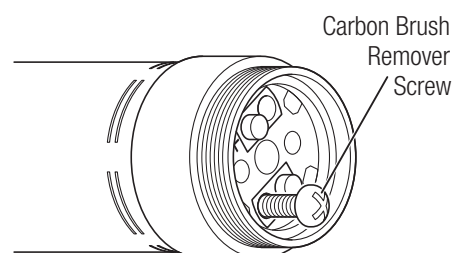

Fig. 13
- 3) Screw the Carbon Brush Remover Screw (included with replacement carbon brushes) into the screw hole two or three times. Then remove the carbon brush by pulling the remover screw (Fig. 13).